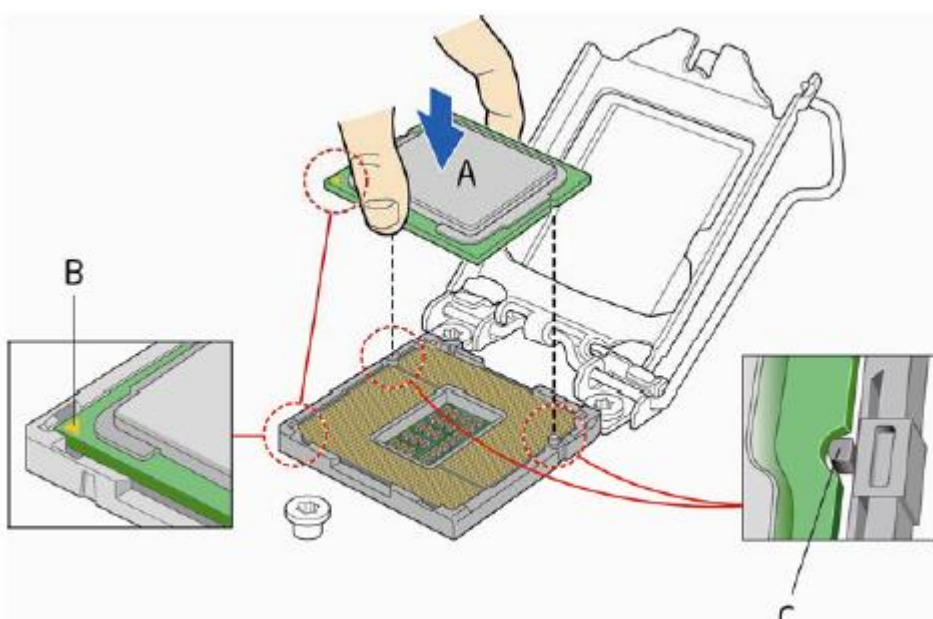

Figure 16: Install the processor
4. Hold the processor with your thumb and index finger oriented as shown in Figure 16 to align your fingers with the socket finger cut-outs. Make sure that the processor Pin 1 indicator (gold triangle) is aligned with the Pin 1 chamfer on the socket (Figure 16, B) and that the notches on the processor align with the posts on the socket (Figure 16, C). Lower the processor straight down without tilting or sliding it in the socket (Figure 16, A).